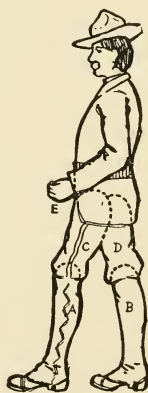

FIG. 347.
**A Jointed Figure** made out of a paper soldier. Suppose you have a soldier in some such position as shown in Fig. 347. First cut off the legs along the dotted lines shown in the illustration, each leg in two pieces (see *A*, *B*, *C*, and *D*, Figs. 347 and 348). Remove also the hand projecting beyond the body at *E*. A small piece of cardboard of the same thickness as that upon which the soldiers are printed should be glued to the back of *C* and *D* where those pieces were cut into in cutting off